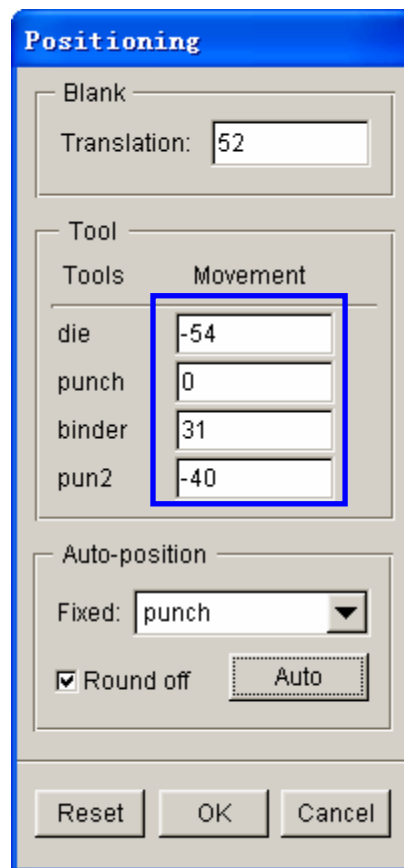

Figure 5.68 After tool auto positioning
3. Then, clicks **Auto** button to position all tools and blank. The result is illustrated in Figure 5.68.